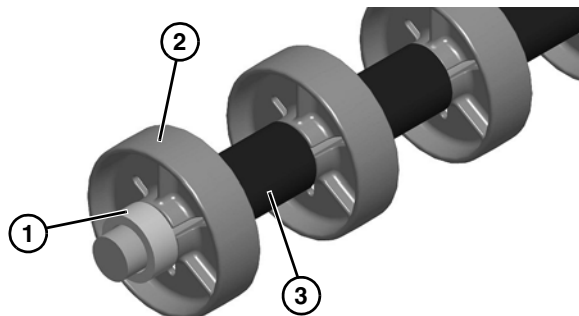

Figure 62
- Remove spacer (**Figure 62, item 1**), rollers (**Figure 62, item 2**) and tube spacers (**Figure 62, item 3**) from shaft.